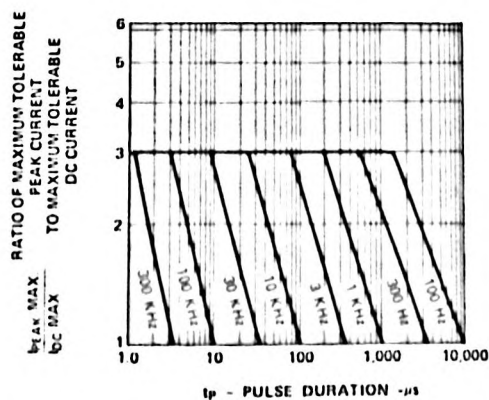

Figure 3. Maximum Tolerable Peak Current vs. Pulse Duration.
- Derate from $T_A = 50^\circ\text{C}$ at 0.071 V/ $^\circ\text{C}$, see Figure 3.